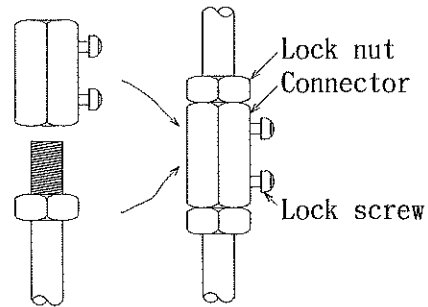

Fig. 9
(1) In case of 316 stainless steel (See Fig. 9)